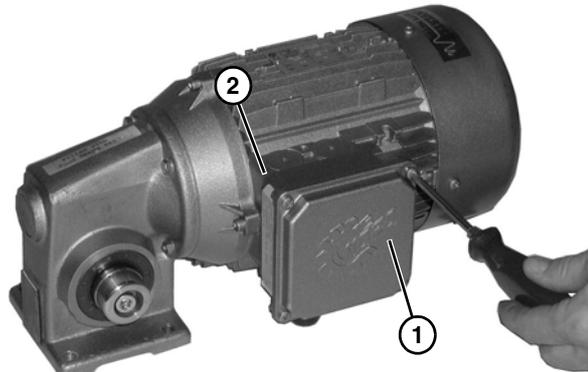

Figure 13
1. Loosen the screws and remove the cover (Figure 13, item 1) from the junction box located on the side of the motor (Figure 13, item 2).